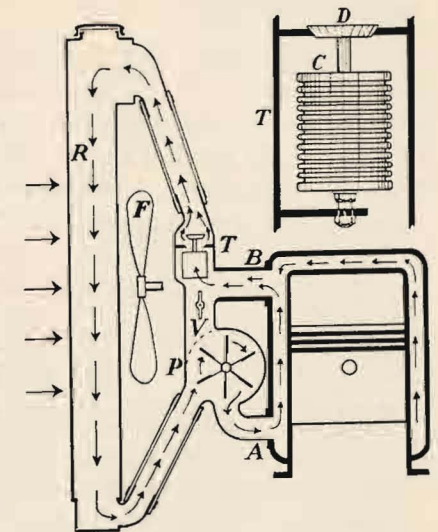

Fig. 15.—Details of automobile cooling system.
**24. Liquid cooling.** Some of the details of an automobile liquid cooling system are shown in Fig. 15. The coolant is usually water in summer, while in winter an *anti-freeze* solution is used. The cylinder is surrounded